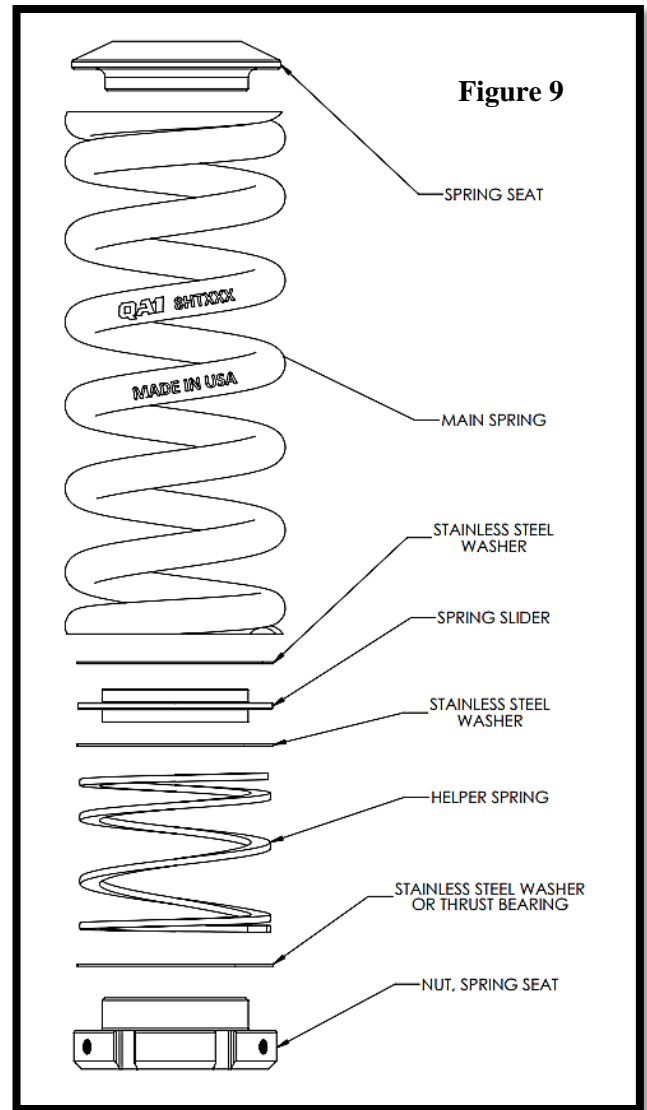

Figure 9
12. Install the coil spring onto the shock. **(Figure 9)**